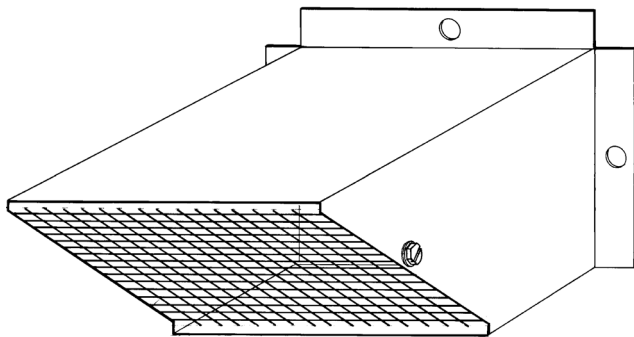

Fig. 63 — Flue Outlet Hood
2. Attach flue outlet hoods (see Fig. 63) to access panel using screws provided. Hoods are placed over each combustion outlet.